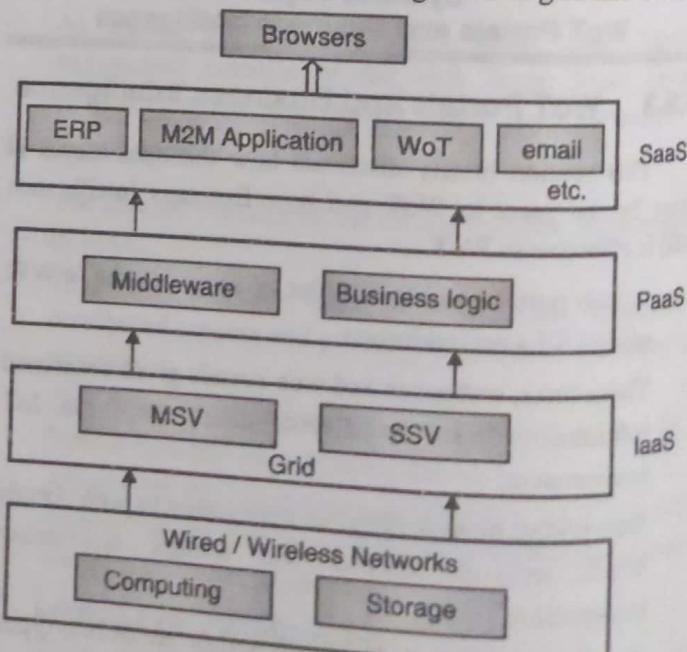

Fig. 5.4.1 : Cloud as integration of grid and SOA
- Fig. 5.4.1 shows Cloud as integration of grid and SOA.